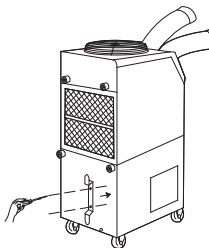

Figure 10
2. Place the power cord holder on the rear of the unit as shown in Figure 10.